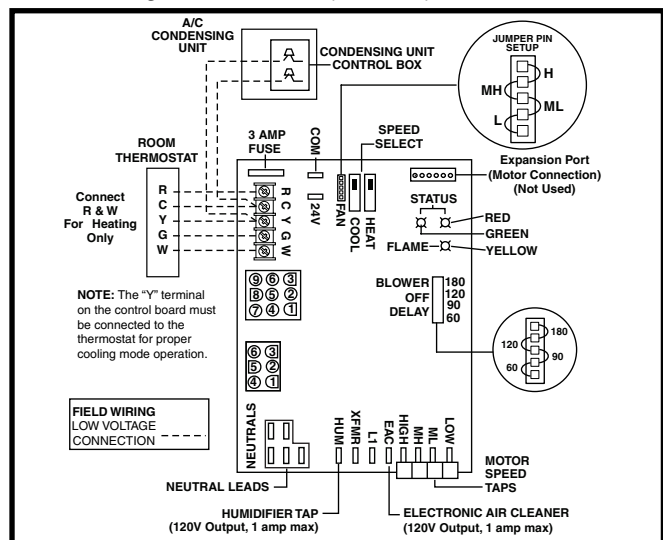

Figure 13. Low Voltage Connections
are wired to the terminal strip on the integrated control in the furnace. Figure 13 contains the proper connections for heating only (two-wire) and heating/cooling (four-wire) applications.
- The six pin terminal marked "Expansion Port" (Figure 13, page 14) is not used in the single stage furnace as shipped from the factory. It is used for the furnace control board to communicate to a fixed speed or variable speed high efficiency motor that may be optionally installed. Please contact your distributor for the proper upgrade motor kit.
- ✓ Verify the jumper setting (for fan speed) on the control board. See Figure 13, page 14.
- When the thermostat energizes the **G** terminal for continuous fan (without calling for heat or cooling), the indoor fan is energized on the selected FAN speed. See Figure 13, \(page 14\). The control defaults to MEDIUM HIGH if the movable jumper is not attached.